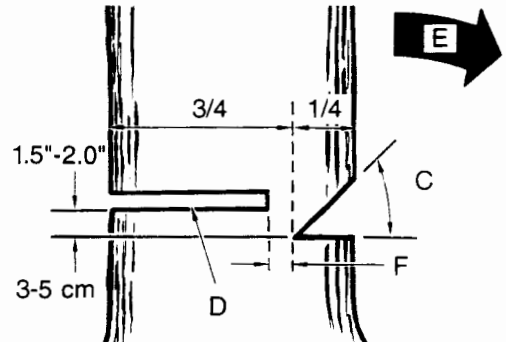

Fig. 9
Make the felling cut (D) from the other side of the tree and 1.5 - 2.0 inches (3-5 cm) above the edge of the notch (C) (Fig. 9).